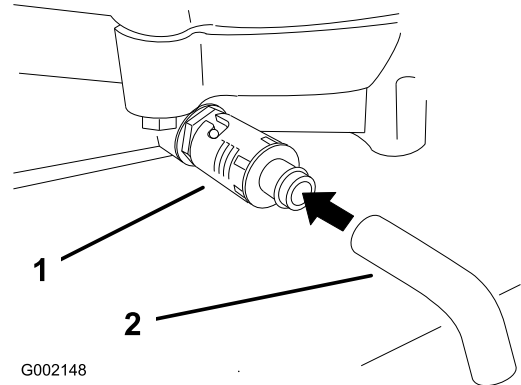

Figure 25
4. Place a pan below the drain. Rotate oil drain valve to allow oil to drain (Figure 25).